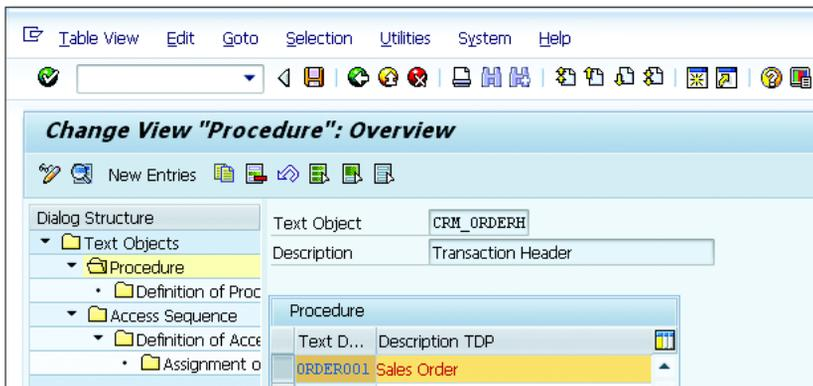

Figure 4.59 Text Determination Assignment to the Text Object CRM_ORDERH
7. Assign the text determination procedure to the text object (see Figure 4.59).